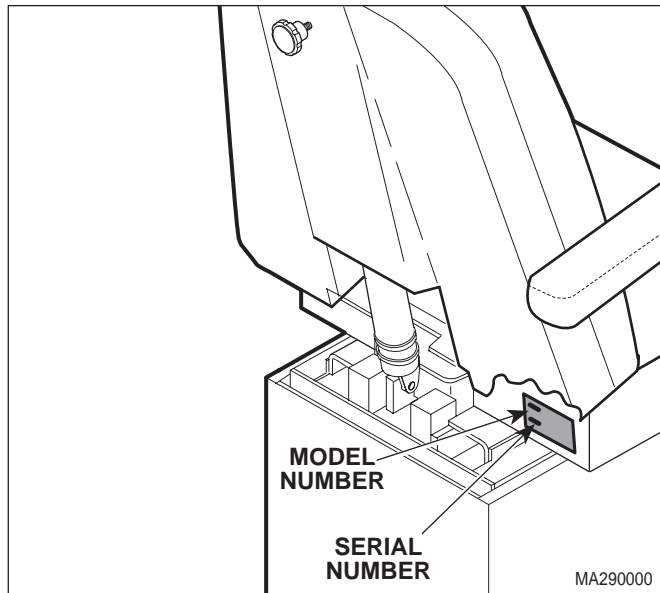

Figure 1-3. Model Number / Serial Number Location
- (1) Refer to Figure 1-3 to determine the location of the model number and serial number of the chair and record this data.